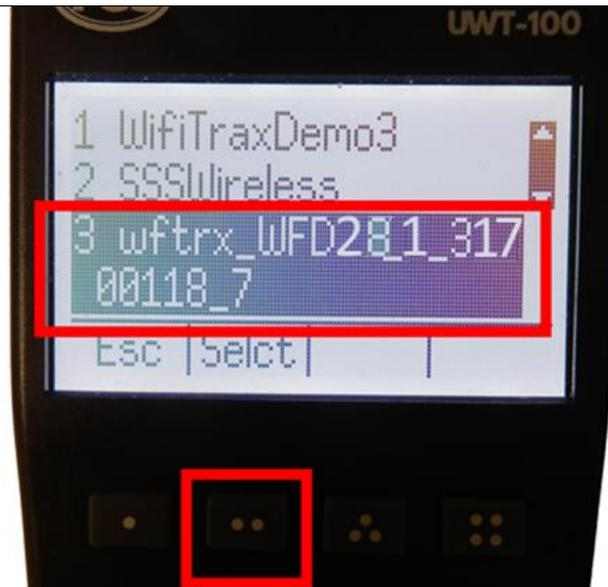

Figure 27 Select the Wi-Fi Network of the WFD-28
- (5) In the Found Networks list, identify the one which has the form wftrx_WFD2X_1_XXXXXXXX_7, where XXXXXXXX is the serial number of your unit as Figure 27. Select that Network, using the Selct [..] key.